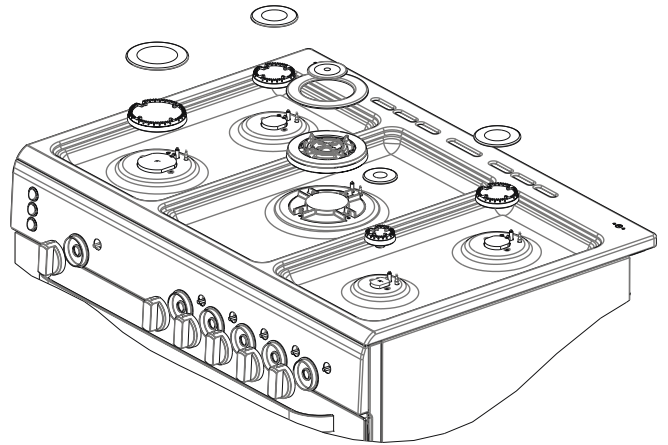

Fig 4.
- Remove the burner cap and the adapter (**Fig 4**).